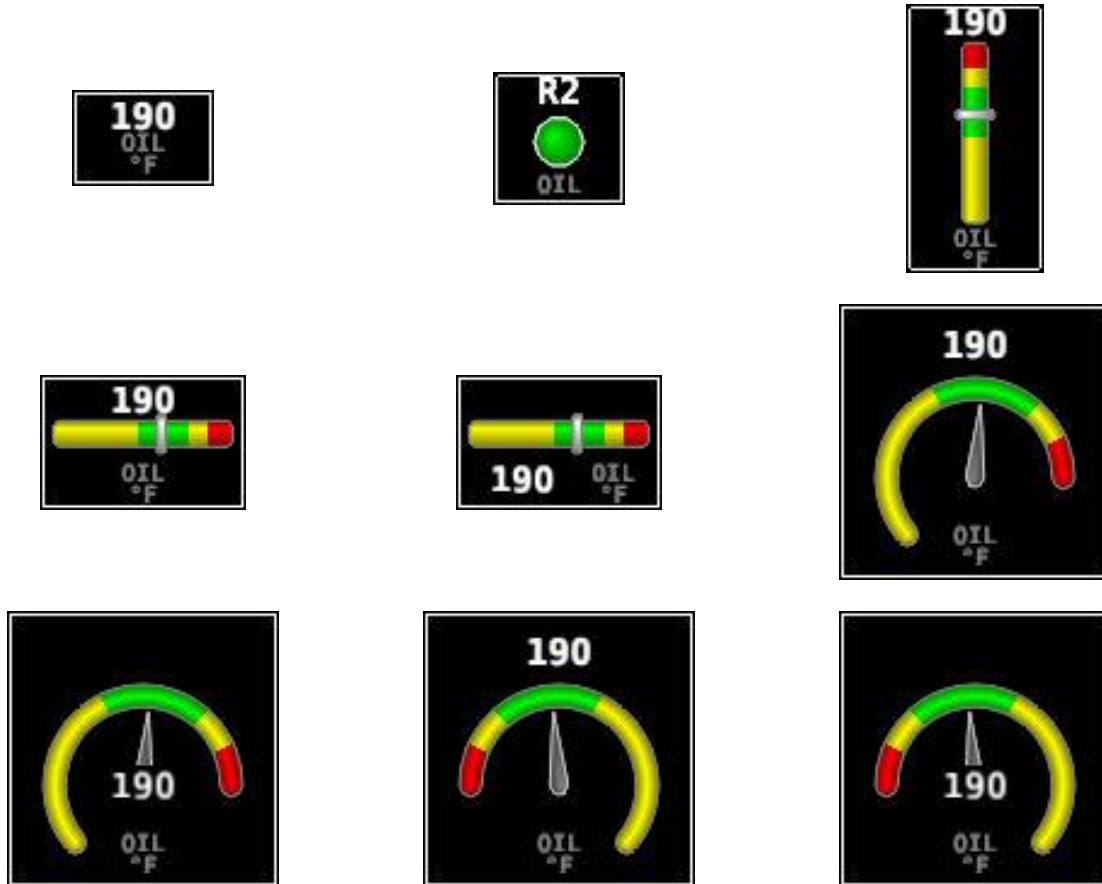
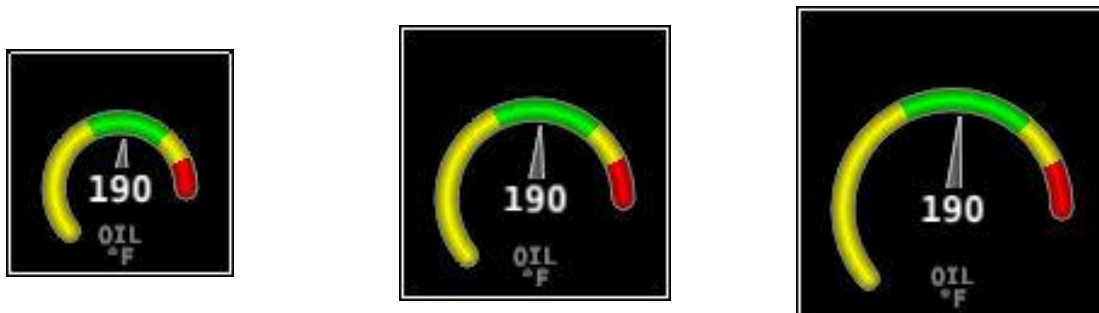

Figure 97 – Example of Oil Temperature Widget Styles
Figure 98 – Example of Oil Temperature Widget Sizes
If one SkyView display is being used as a dedicated Engine page with a 100% page layout, installer may consider using individual widgets to display the functions listed above. Individual widgets are selected from the SCREEN LAYOUT EDITOR's SENSOR list and are labeled Function (1) and Function (2). The Function (1) widget is linked to the EMS module installed for the left engine, which is configured as ENGINE #1 EMS in SETUP MENU > EMS SETUP > DUAL EMS SETUP. The Function (2) widget is linked to the right engine EMS module (ENGINE #2 EMS). These widgets come in the same style and size variations as shown in Figure 97 and Figure 98.